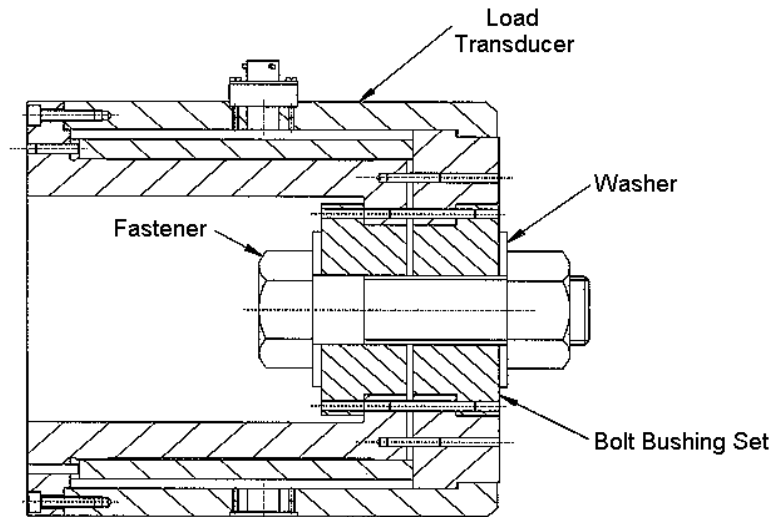

FIG 2
3. Assemble fastener to be tested in load transducer using the appropriate bushing sets (see Fig 2).